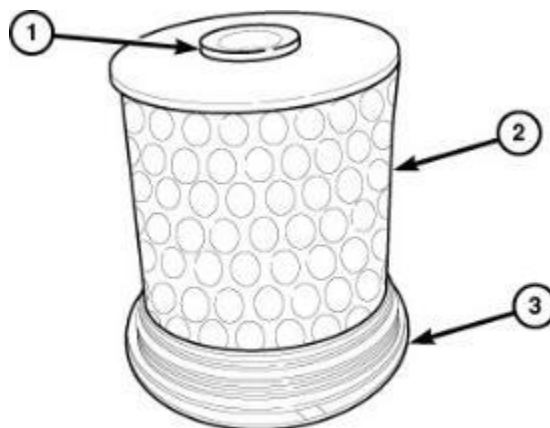

Figure 77 - Filter Seal
104. Position and push down on **NEW** fuel filters (2) to install filter onto the cover (3) (Figure 77).
105. Lubricate the rubber seal (1) with clean diesel fluid (Figure 77).